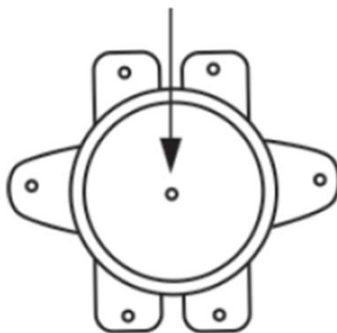

Fig 9
- Press the button located in the center of the thermal switch (round shape, near the heating element) until you hear a click, see Fig. 9;
6. To drain the water from the internal tank, you can use the drain hole (only for the FSM8 series) (you need to unscrew the plug that covers the drain hole). To drain the internal tank, use the safety relief valve: unscrew the screw of drain knob on the safety relief valve and move the drain knob to the up position — the hot water outlet tap must be open and the cold water inlet tap must be closed (see Fig. 9). Water will start flowing from the pressure relief port of the safety relief valve.